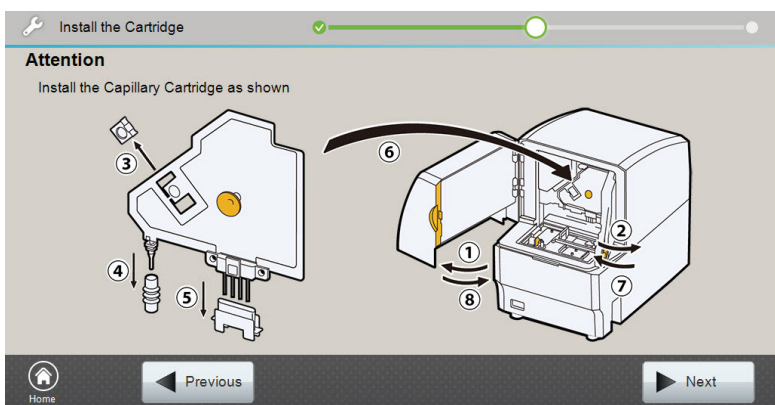

Figure 33. 'Install the Capillary Cartridge' screen.
- When the 'Install the Capillary Cartridge' screen appears (Figure 33), open the front door of the instrument.